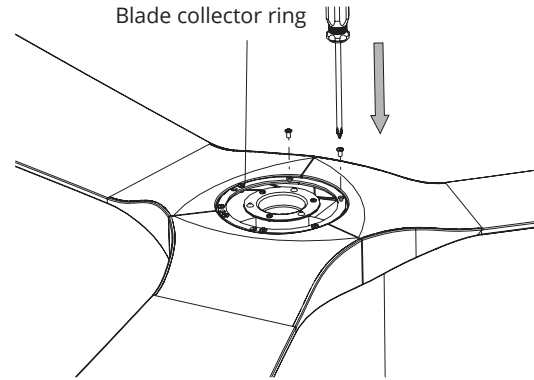

FIGURE 15
2. Repeat this procedure with the remaining blades (Fig. 15).